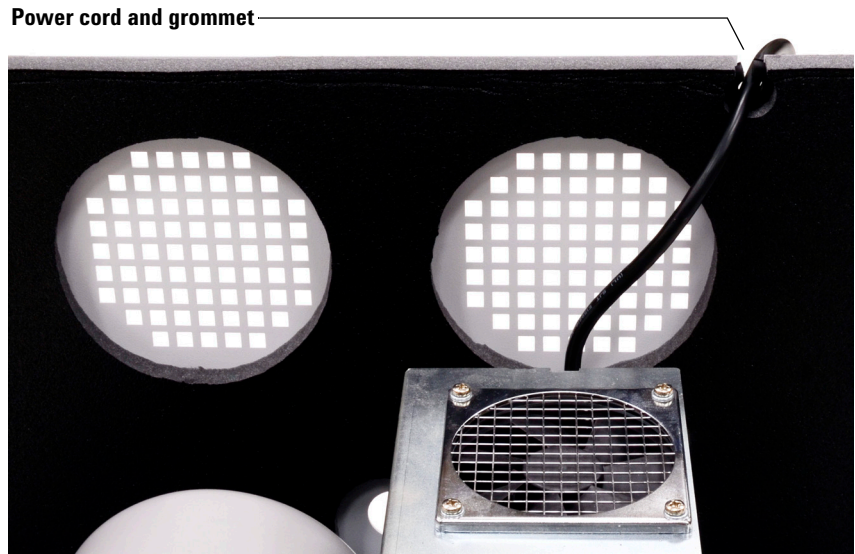

Figure 5 Power cord and grommet
- b Slide the cord and grommet from the groove in the back upper edge of the Quiet Cover MS frame (Figure 5).